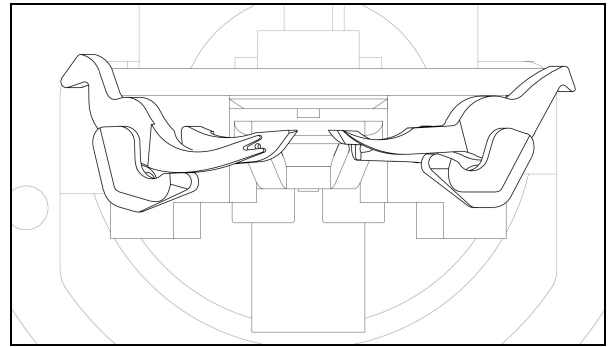

Fig 1
- Adjust the spreader stops as in Fig 1, positioning the spreaders over the loopers as shown. The fork of the left spreader should be centered over the thread hole of the left looper. The right spreader should be even with the back side of the right looper.